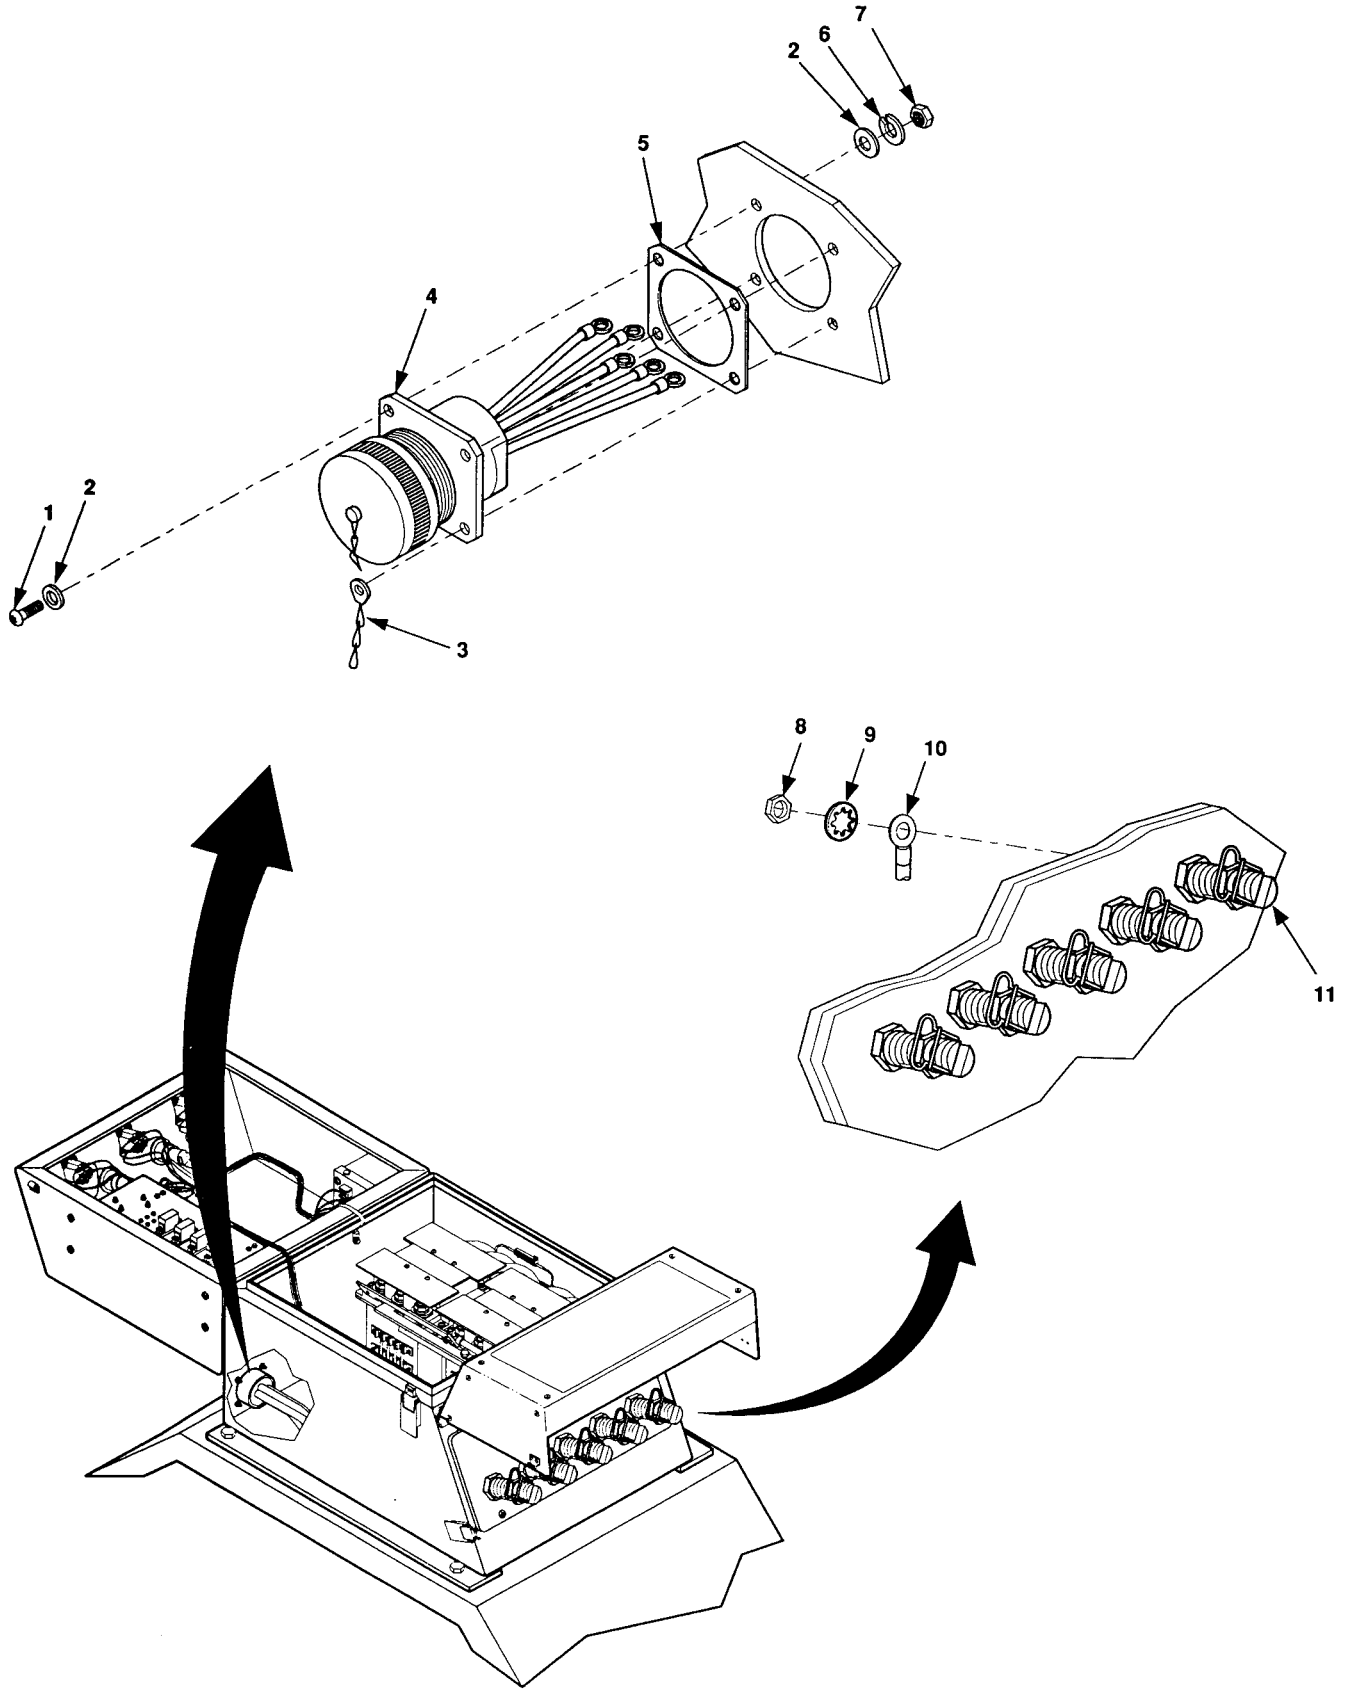

Figure 5-14. Output Connector Harness.
1. Remove nuts (8, figure 5-14), and internal tooth washers (9), from switch box load terminals (11).